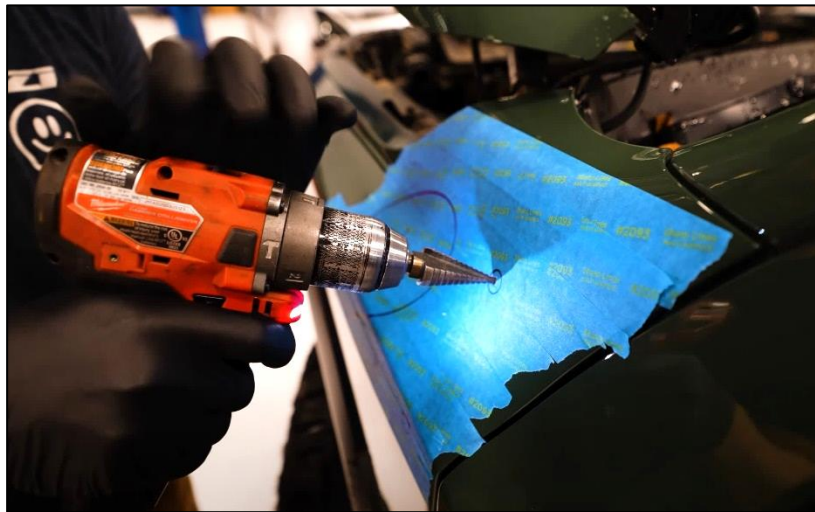

Figure 8
11. Using a Center Punch or Drill, mark the center of the (3) three smaller holes marked in *Step 9.* *Figure 8.*